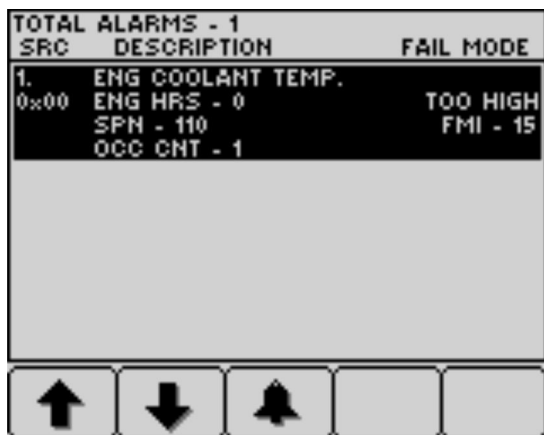

Figure 79
3. Press button 1 through 5 to view the active fault list (Figure 79).
4. Press button 1 through 5 to view the active fault list ; refer to Figure 79 in Engine Advisories Messages \(page 43\).